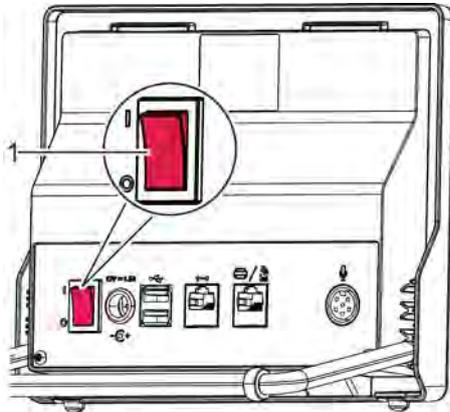

Fig. 41: Pressing the switch
1. ➔ Set the switch (Fig. 41/1) to the [O] position.